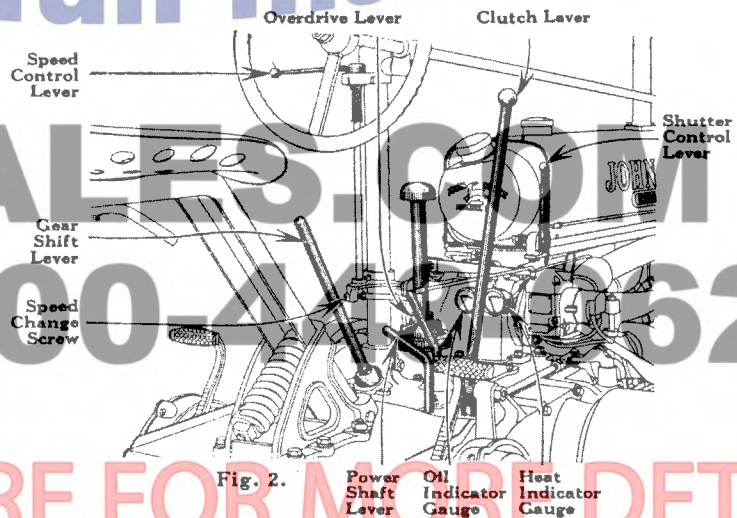

Fig. 2.
2. Advance speed control lever half-way. (Fig. 2.)
1. Oil pressure gauge must show between "M" and "H" when engine is cold. (Fig. 2.)
2. When heat indicator shows normal or 180° F. (Fig. 2) turn on fuel (3-way cock lever toward rear). Fuel filter shut-off valve in up and down position.